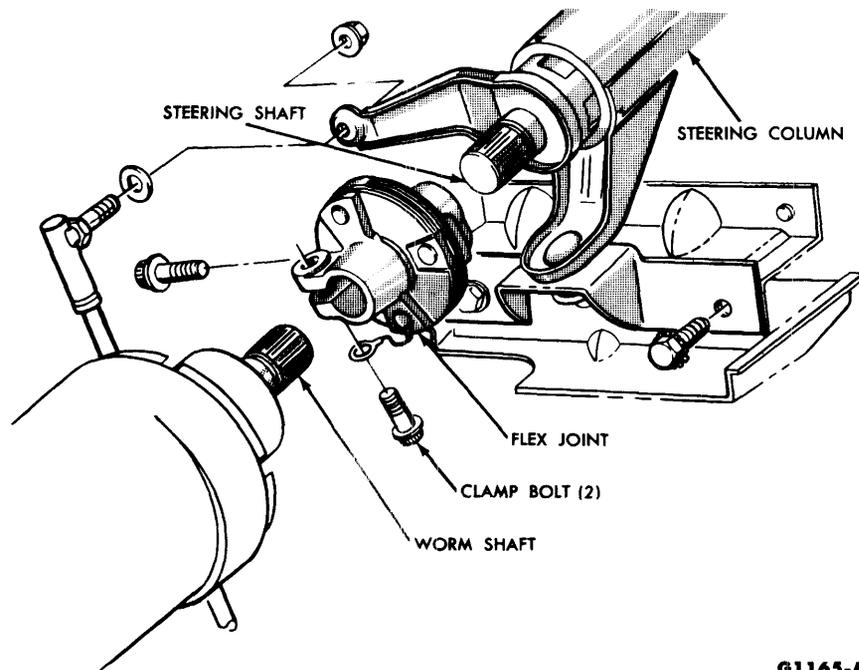

FIG. 25—Steering Column and Shaft-to-Steering Gear Connections
2. Remove the bolt that locks the flex joint clamp to the steering gear worm shaft (Fig. 25).
9. Install the ground wire to the flex joint clamp bolt, and install the clamp bolt in the flex joint clamp to lock the worm shaft to the flex joint (Fig. 25).